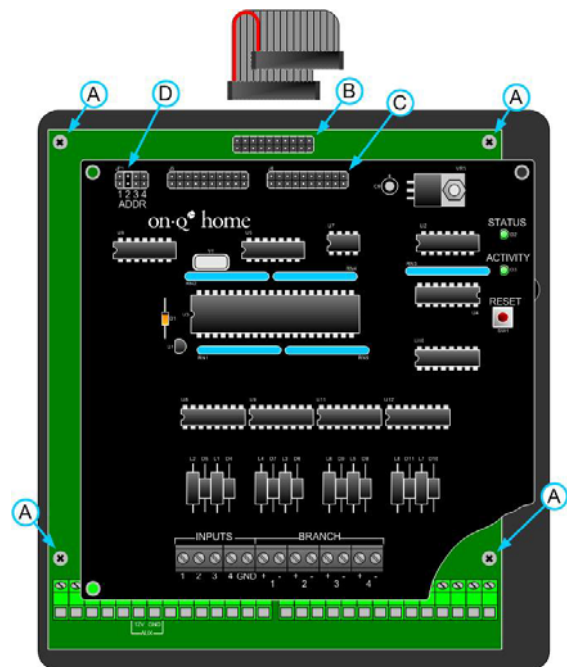

Figure 2. HMS EZ-Scene ALC Lighting Interface Mounting
1. Remove 4 6/32 x 1/4 Phillips screws indicated as "A" in Figure 2. Replace the screws with the 4 supplied 6/32 x 1/2 male/female Hex Standoffs. Retain screws for future step.
2. Connect supplied cable to 20 pin connector on controller indicated as "B" in Figure 2.
4. Connect opposite end of supplied cable to the 20 pin connector on the interface PCB indicated as "C" in Figure 2.
5. Ensure that the address jumper indicated as "D" in Figure 2, is set to a unique address. Factory setting is address no. 2.